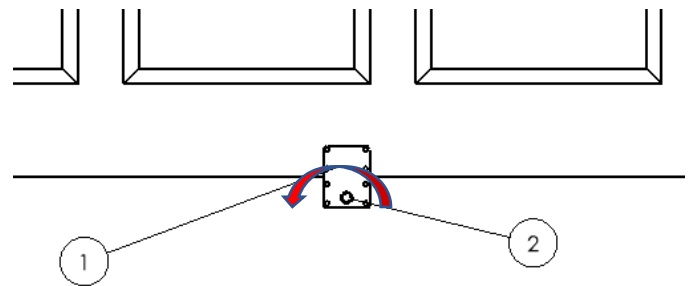

Figure 3.8
On the driver's side of the box turn the spring assembly shaft (2) counterclockwise until the shaft engages with the spring. (Figure 3.8)